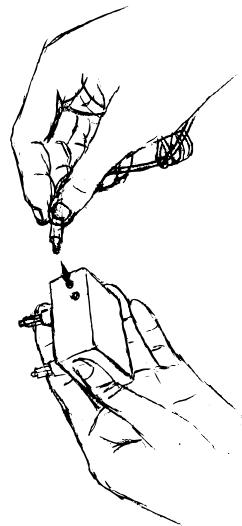

figure 1 – Receiver Collar Charging Interface
2. Connect the AC Charging Adapter into the Receiver Collar Charging Interface (*figure 1*) for 6 to 8 hours (on the first use of the product, charge the Receiver Collar for 12 to 14 hours).